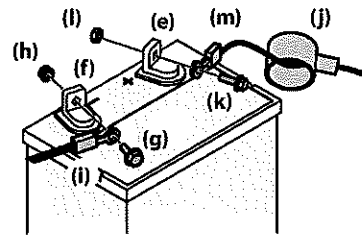

Figure 20
**NOTE:** The positive battery terminal (e) is marked POS. (+). The negative battery terminal (f) is marked NEG. (-). See Figure 20.